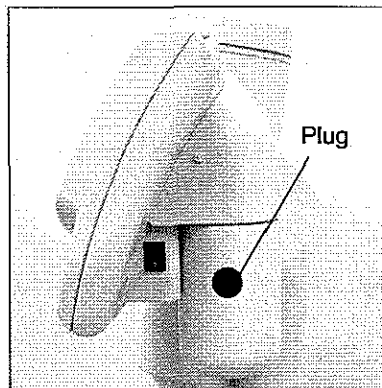

Figure 5-2a: Plug
2. Insert the small flat-edge screwdriver into the plug recess and remove plug (see Figure 5-2a).